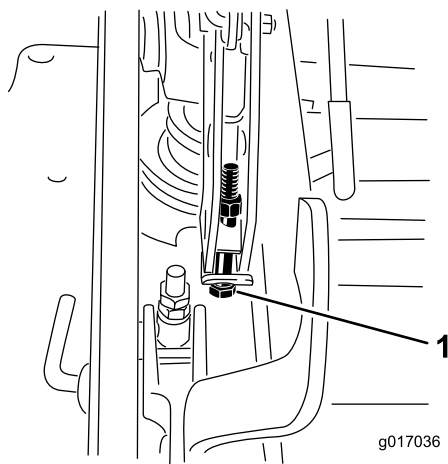

Figure 88
13. If the deck is too low, tighten the single point adjustment bolt by rotating it clockwise. If the deck is too high, loosen the single point adjustment bolt by rotating it counterclockwise (Figure 88).